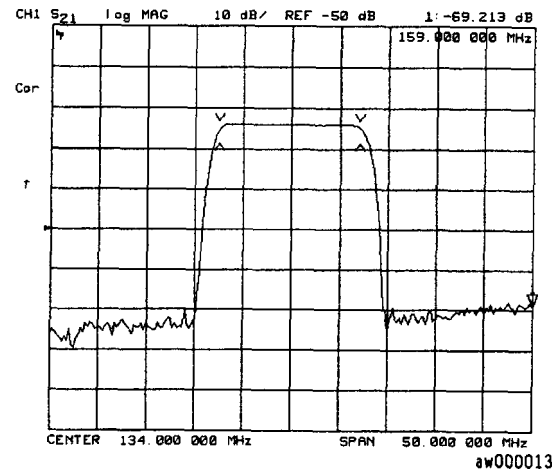

Figure 2-10. Example Single Point Limit Lines
2. To designate a single point limit line, as shown in Figure 2-10, you must **define** two pointers: